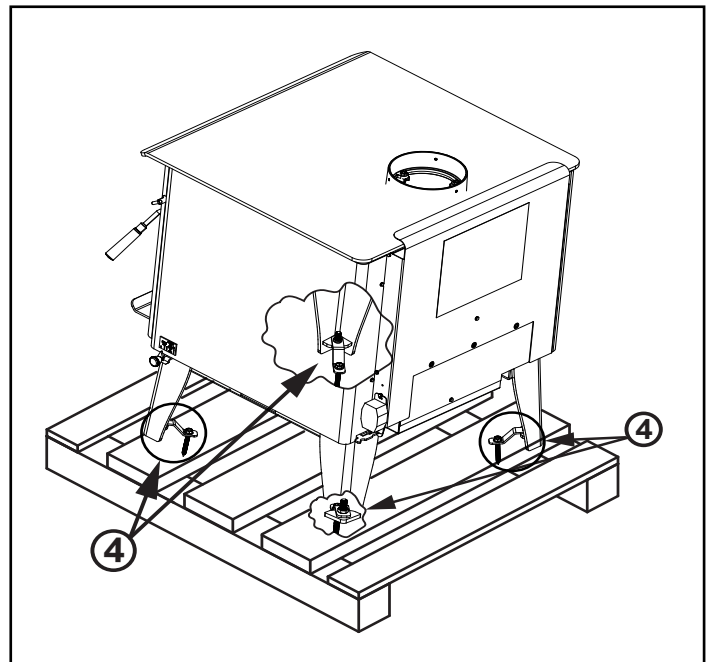

Figure 6.1
2. Using 7/16 socket or wrench remove (4) lag bolts located at each leg of the appliance. Using a 9/16 socket or wrench remove (4) nuts installed on each leg leveller. Remove the bracket (**Figure 6.1**).